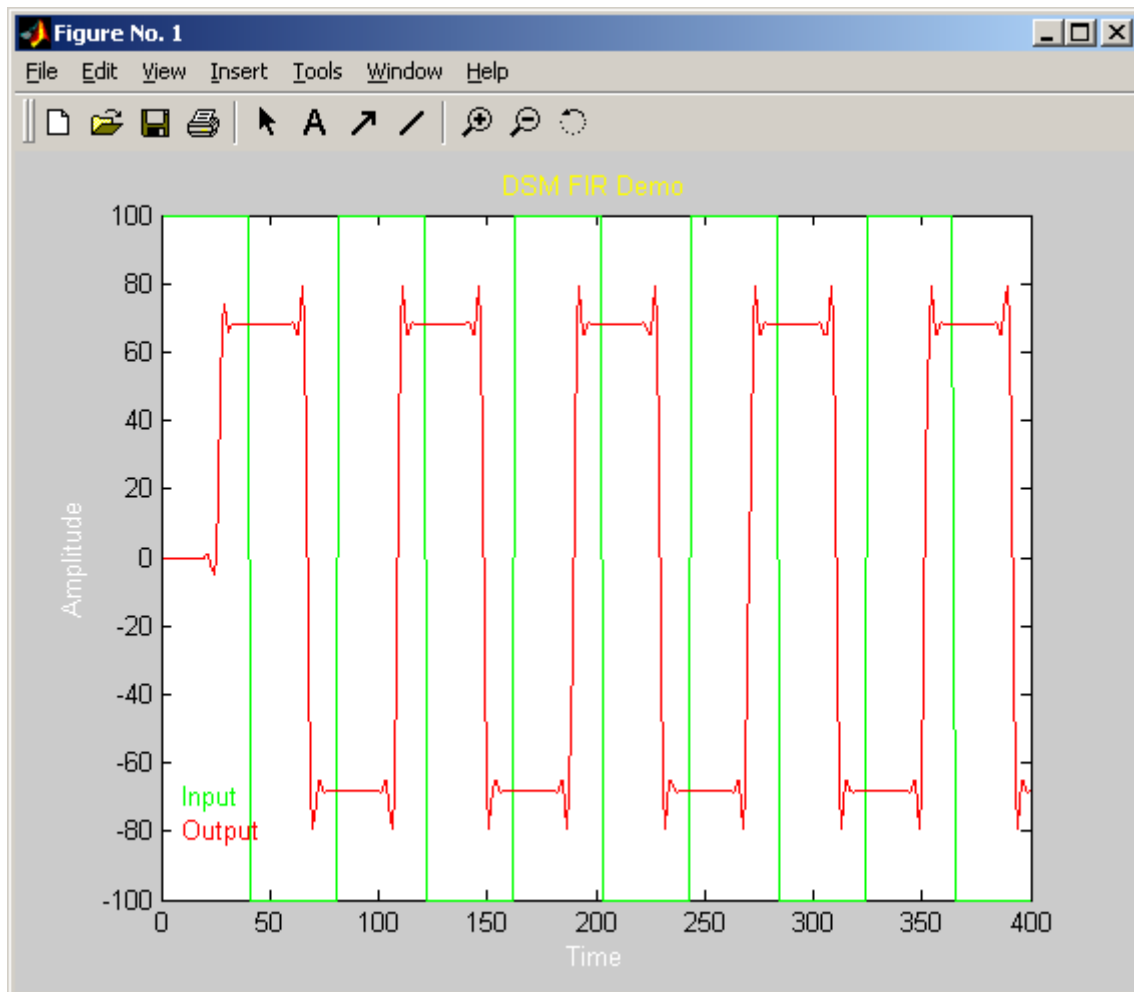

FIGURE 4: MATLAB OUTPUT FOR VIRTEX-II PRO (MV2P) TARGET
5. Hit the build button or press F7 in DK to download the bit file onto the MV2P board. After downloading the BIT file you should see the waveforms as shown in Figure 4.